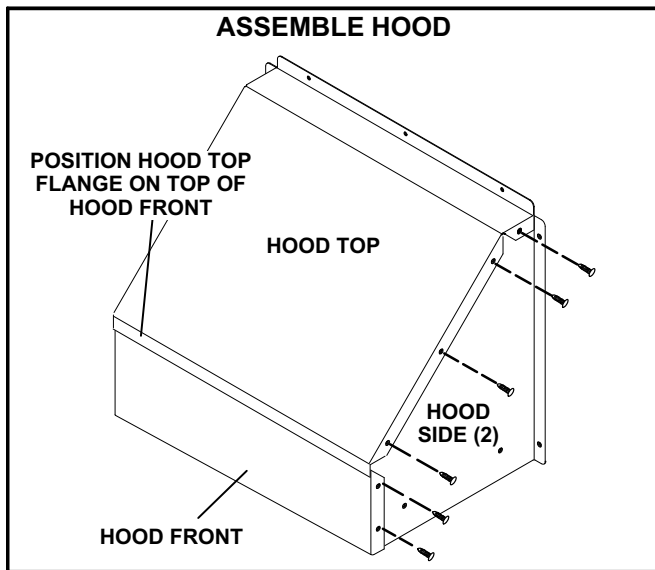

FIGURE 15
- 1- Assemble hood as shown in figure 15.